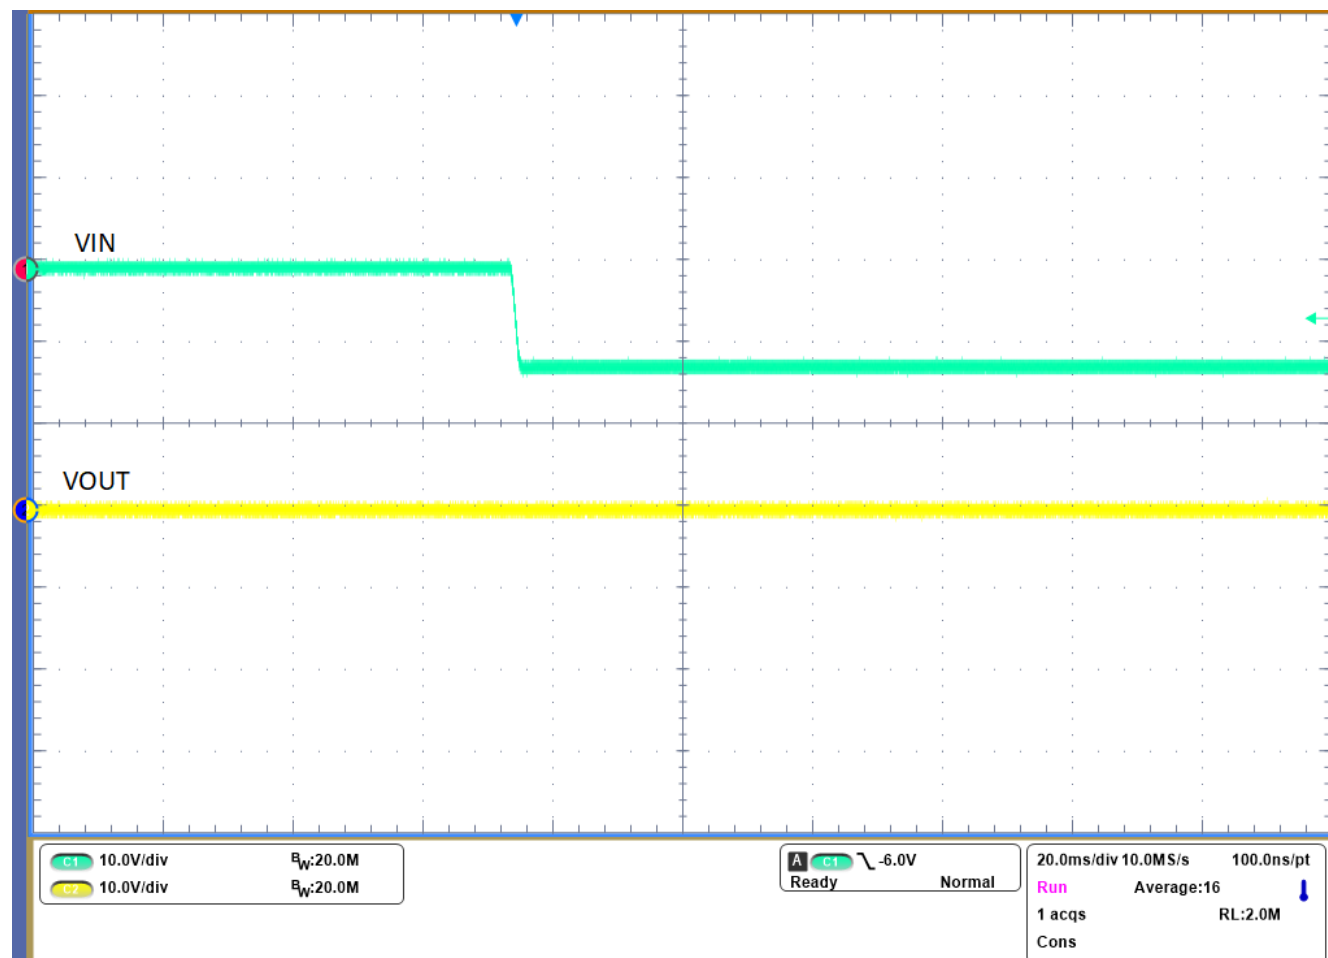

Figure 3-2. Startup Reverse Polarity (–12 V)
- Figure 3-2 shows that the output voltage remains at a constant 0 V in this situation.